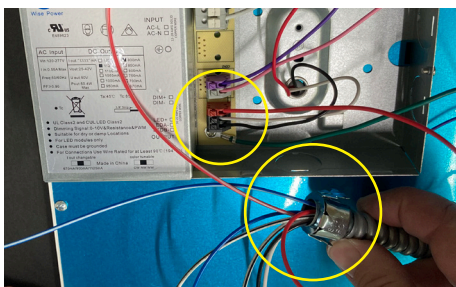

Figure 3
- Step 3. Connect Red wire from Battery Backup to original Red wire location on Power Supply (Figure 3)